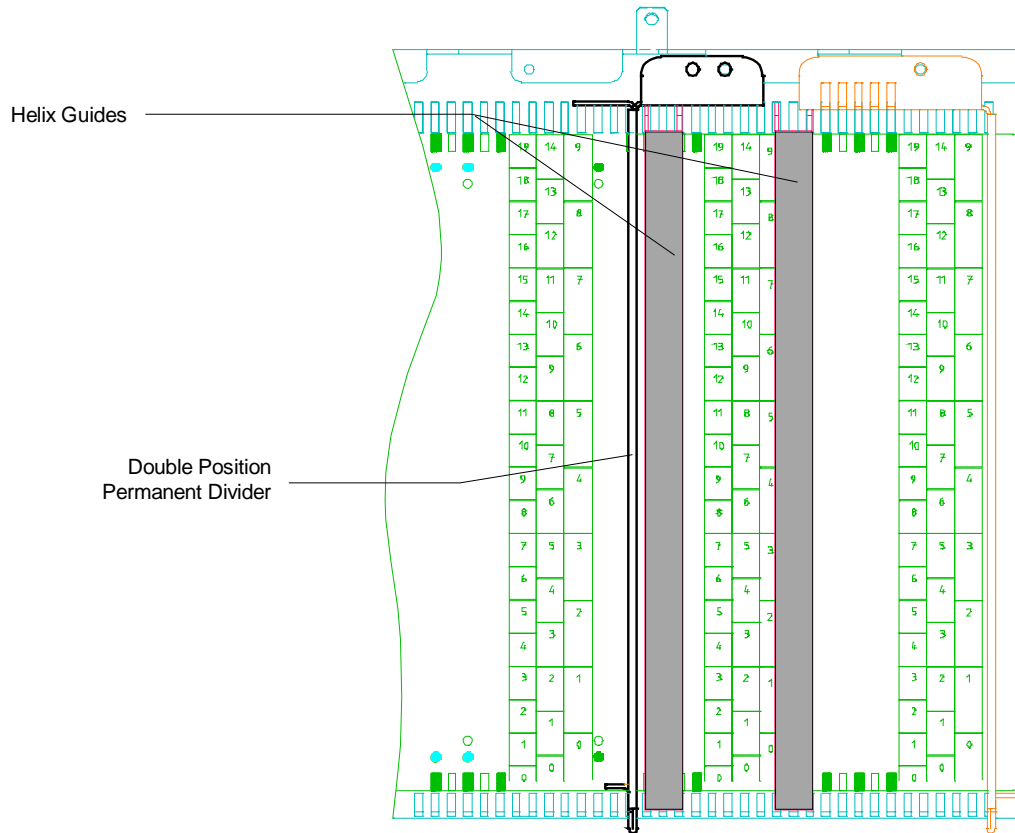

Figure 5 Positioning the Helix Guides
| Figure 5 Positioning the Helix Guides | 6 |
2. Position the two Helix Guides as shown in Figure 5. Loosen the Permanent Divider on the right and slip the Helix Guide under it. The right Helix Guide will align with a slot in the Permanent Divider.
1. Install the kit provided Double Position Permanent Divider using the left mounting hole in the divider (see Figure 5). Align the divider with the two cyan colored dots to the right.